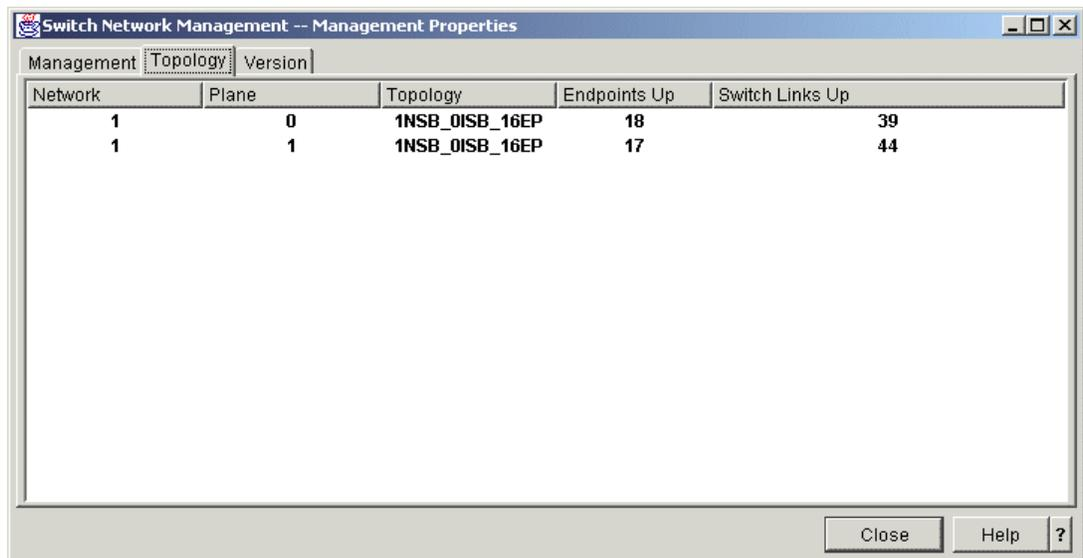

Figure 4-18 Switch Management Properties - Topology view
- Topology view (see Figure 4-18): Select **Switch Management -> Switch Network Management -> Management Properties -> Topology** tab.